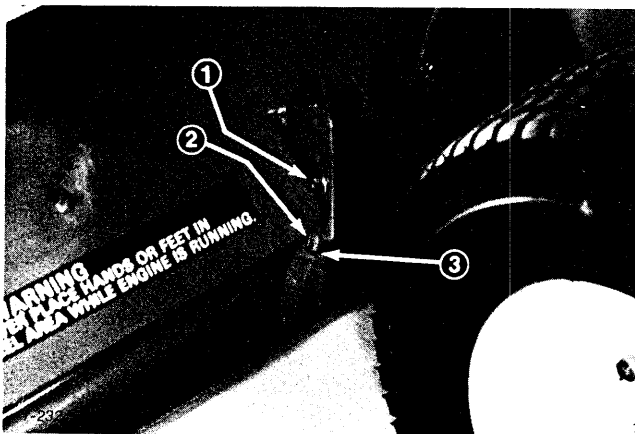

Figure 28
Height-of-Cut: Height of cut is adjustable from $1/2$ to $2-1/4$ in. (13 to 57 mm) (Fig. 28).
1. To set height-of-cut, remove hairpin cotter from links on each cutting unit and move links (Fig. 28).
3. Cutting units can be more finely adjusted to either level a unit, more closely match height setting with the other units or adjust to an intermediate setting. Loosen jam nut on links, remove hairpin cotter and remove link from hole (Fig. 28).
4. Turn link either in or out to achieve desired setting, install link into hole and tighten jam nut (Fig. 28).